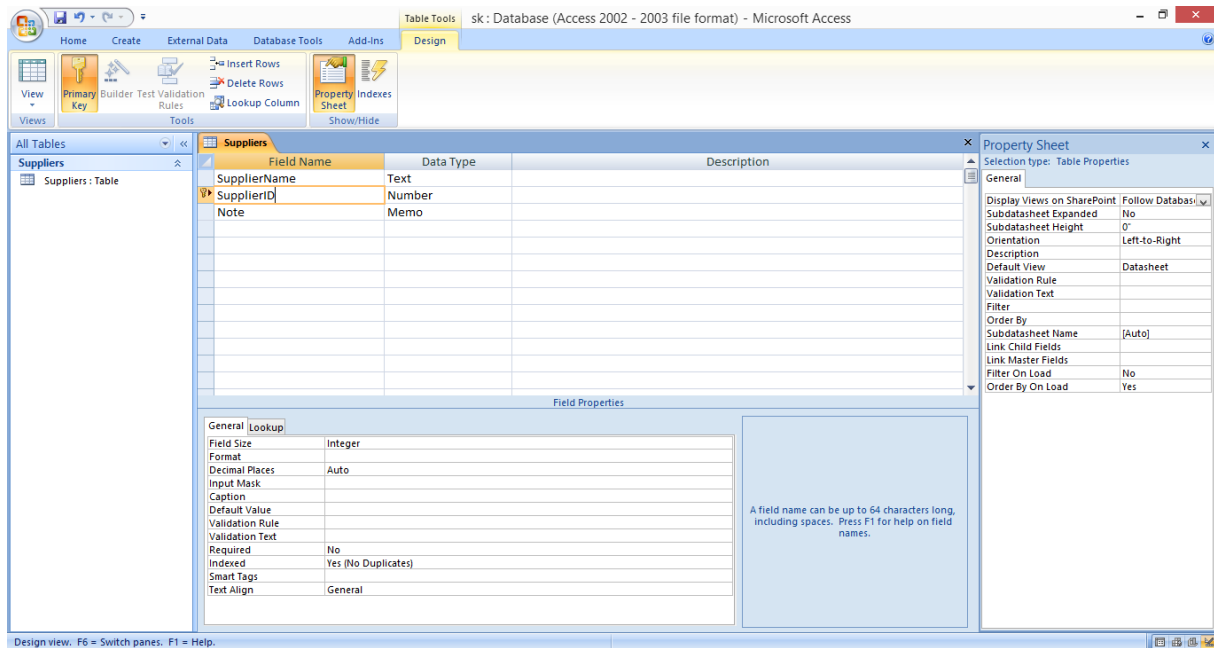

Figure 1.1
5) For the table “Suppliers” include the field “SupplierID” into the PK (figure 1.1);